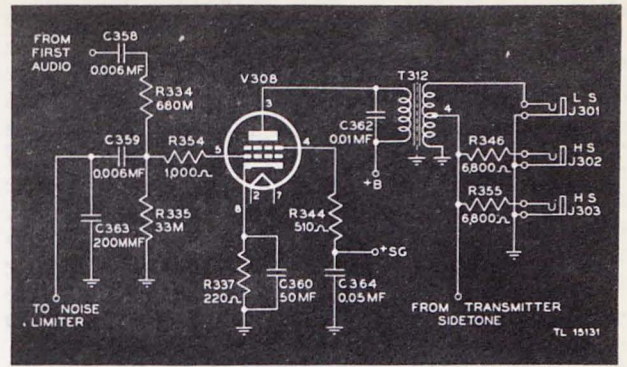

Figure 45. Radio Receiver BC-652-A, functional diagram of audio output circuit.
a-v-c operation. During c-w or m-v-c operation, Resistor R302A is the volume control; during a-v-c operation, R302B is the volume control. Capacitor C350 is the audio coupling capacitor. The amplified audio signal from the plate (pin 6) of the audio-amplifier section of tube V307 is fed through capacitor C358 (fig. 45) and resistors R334 and R354 to the grid of output tube V308. Resistor R333 is the triode plate-load resistor for V307, and capacitor C361 is the plate bypass. Resistor R332 is a bleeder resistor from the plate-load resistor to cathode.
figure 45, it will be seen that the output of first audio tube V307 is applied through capacitor C358 and series resistors R334 and R354 to the grid of audio output tube V308. The V308 input circuit lowers the amplitude of the applied signal but permits free passage of the higher-frequency noise impulses to the noise limiter through capacitor C359 to the diode plates of V304. Capacitor C363 becomes charged negative by the modulated voltage on the grid of output tube V308, and blocks the diode plates of noise limiter V304 with a negative voltage. Noise signals with greater amplitude than the average modulated voltage will drive the diodes positive, causing the diode section of tube V304 to conduct, effectively shunting to ground the high-amplitude noise signal. Resistor R317 is the leak resistor for capacitor C363. Cathode resistor R316 shunted by capacitor C339 presents a low-impedance signal path from ground to cathode, thus effectively placing the signal ground at the cathode.
82. AUDIO OUTPUT (fig. 45).